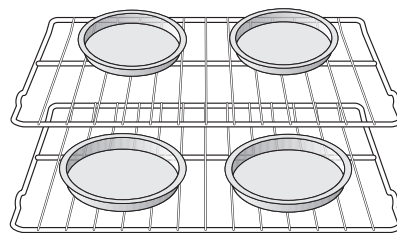

Figure 12: Baking on multiple levels
- For best results when baking cakes or cookies using two oven racks, place pans as shown in Figure 12.